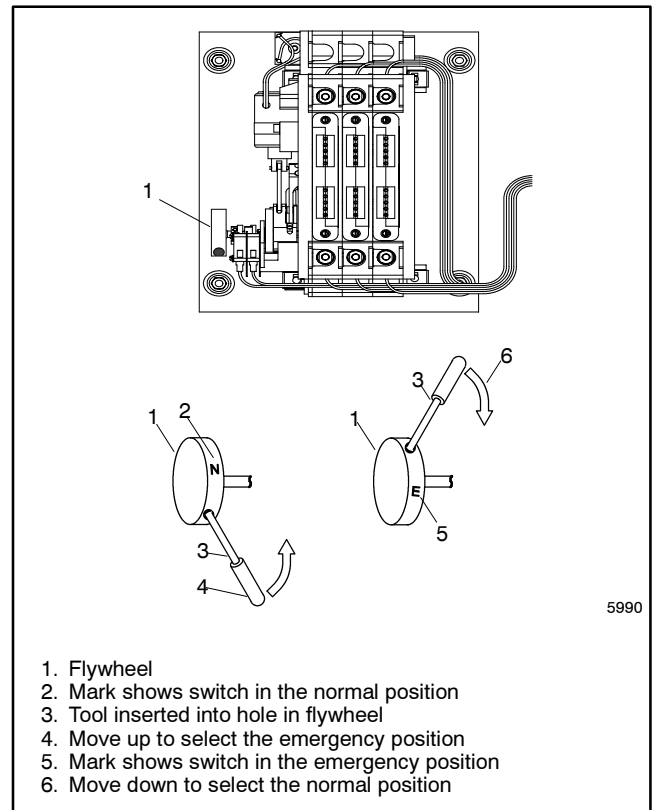

Figure 2-3 Model G120 Contactor with Flywheel (Procedure 1)
Procedure 1, for Model G120 transfer switches, shown in Figure 2-3
1. Insert a #2 Phillips screwdriver or similar tool with an electrically-insulating handle into the hole located on the flywheel at the left of the contactor. See Figure 2-3. A mark on the outer part of the flywheel shows the switch position when viewed
2. Move the tool's handle up to rotate the flywheel to manually operate the switch into the emergency position. Move the tool's handle down to rotate the flywheel to manually operate the switch into the normal position. See Figure 2-3.